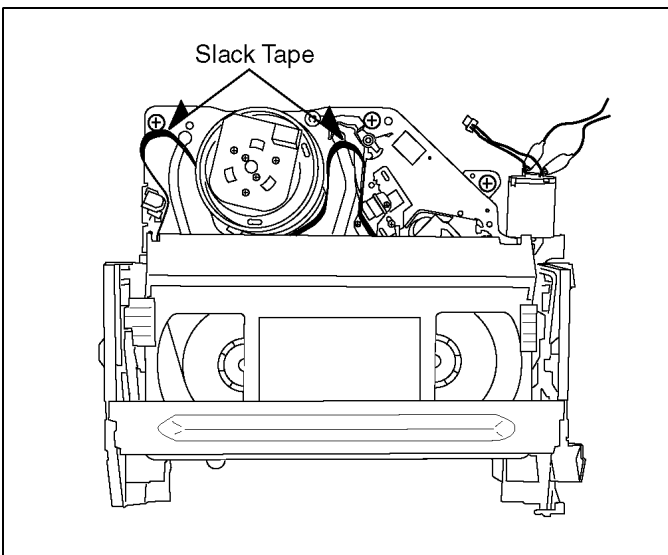

Fig. S3
d. Then the tape becomes slack as shown in Fig. S3.